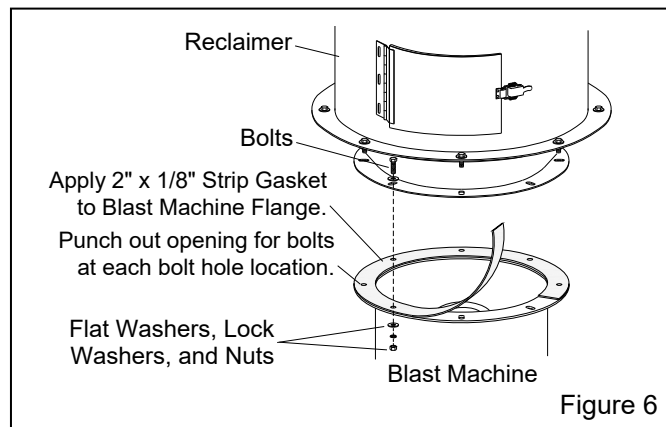

Figure 6
2.2 Assemble Blast Machine and Reclaimer Figure 6
2.5.1 Attach the 1/2" blow-off hose coming from the cabinet hopper, to the compatible fitting on the blast machine piping, between the air filter and pressure regulator. Refer to the schematic in Figure 6.
2.8.1 Uncoil the brown 1/8" urethane control tubing. From the cabinet. The end of each tubing is numbered 1, 2 or 3. Connect the tubing to the adaptor with the corresponding number on the top of the pressure regulator, piping, and 4-way air valve. Refer to the schematic in Figure 6 to confirm the connections.